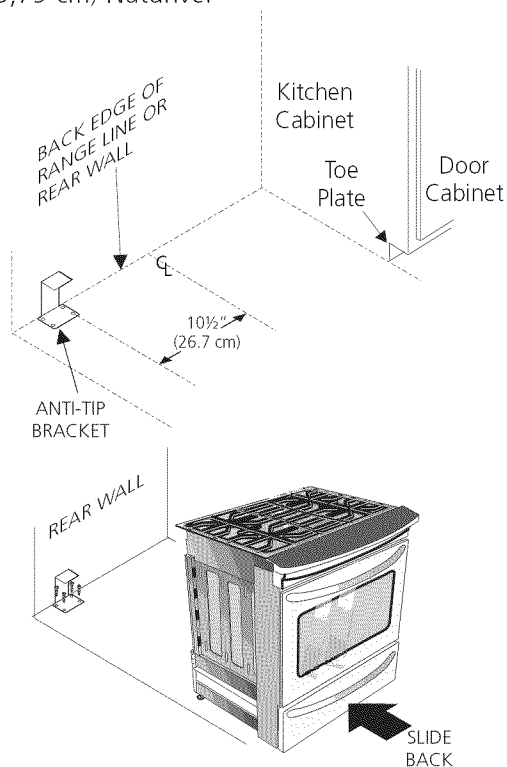

Figure 17
1. Draw a center line (CL) on the floor where the range should be installed. Also draw a line on the floor at the range back position if there is no wall.
2. Unfold paper template and place it flat on the floor positioned exactly on the intersection of the center and back lines you just drew before. (Use the diagram below to locate brackets if template is not available (Figure 17)).